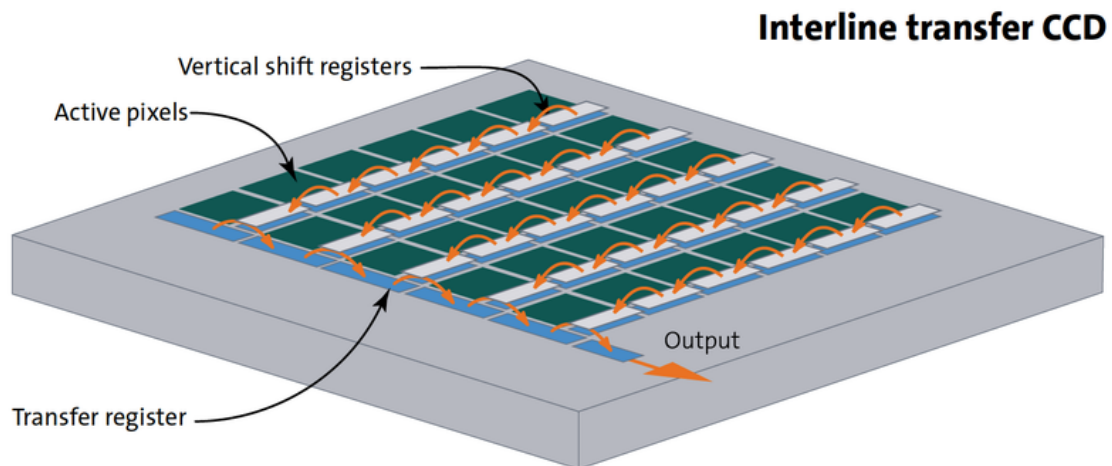
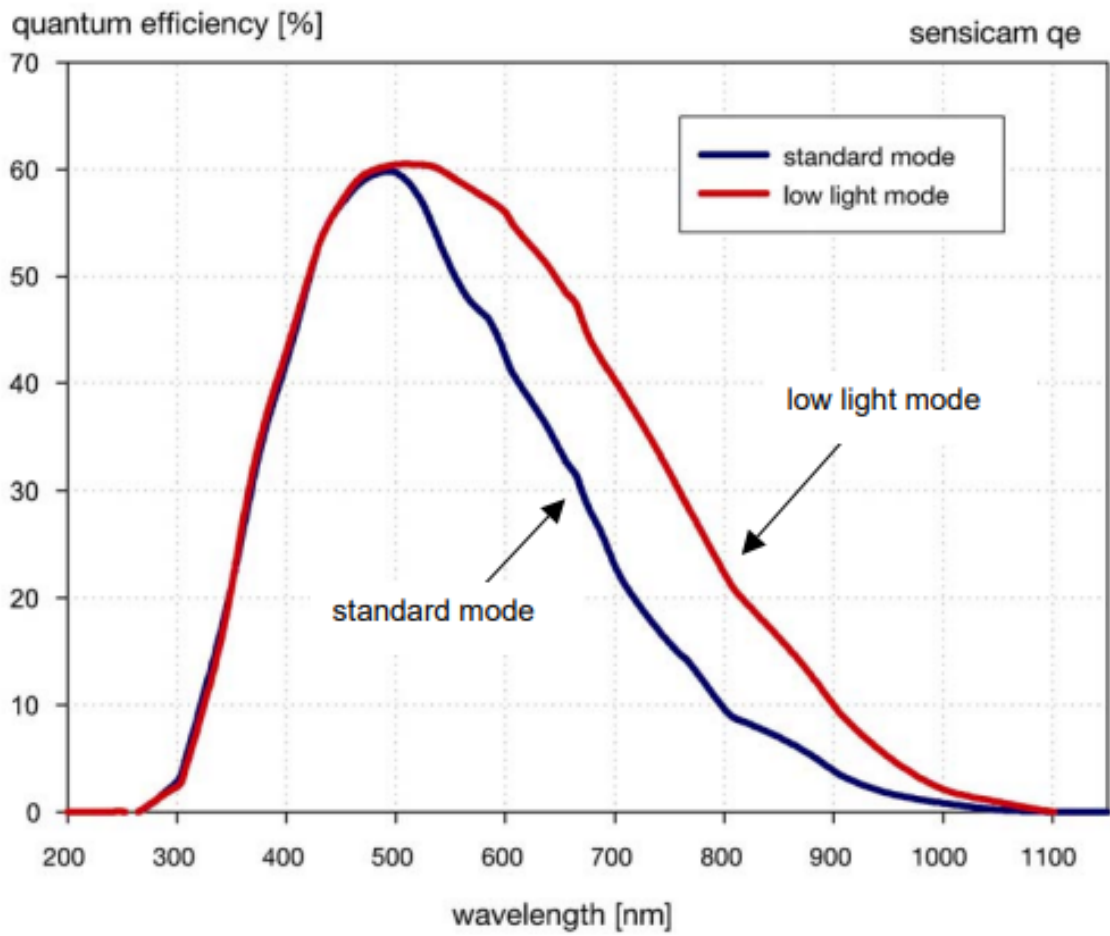

Figure 1.4: Schematic represantation of a CCD sensor. Taken from ^[2].
Figure 1.5: Quantum efficiency of the PCO sensicam qe, given by the manufacturer.
The radiation is focused onto a charge coupled detector (CCD) sensor⁵ in a camera⁶. CCD sensors are silicon chips structured into small squares, called wells (see Figure 1.4).^[3] The number of wells correspond to the number of pixel in the taken picture. Radiation generates charges, electrons and holes, and externally applied voltages separete and trap the charges in the wells. For a specific time, called exposure time, radiation hits the sensor and charges accumulate in the wells. The amount of generated electrons per incoming photon is called the quantum efficiency (QE), and depends on the sensor material and energy of the photon. The QE for the chosen sensor peaks at 500 nm and decays for larger wavelengths (compare Figure 1.5). For the wavelengths transmitted by the filter (see section before), the QE deeps to about 10 %, which reduces the sensitivity. After the exposure time a series of voltages is applied to shift the charges from the light sensitive wells to opaque covered wells. Then the charges are extracted row by row and the voltage of each well is measured. An A/D converter convertes the voltage into an Digital signal, which is saved and later processed.